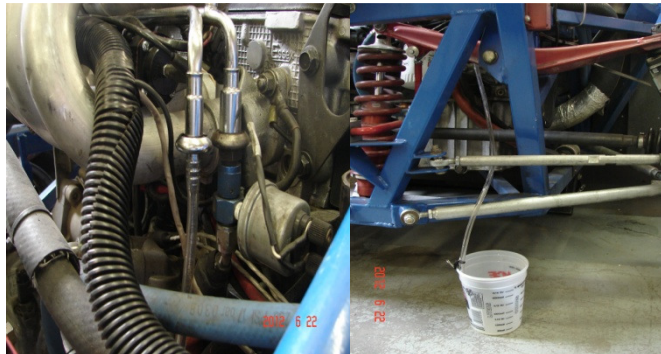

Figure 2 / 2a - Return Side of Fuel Rail
2. Figure 2 / 2a Remove -6 fitting just below the Ford spring lock fitting and attach female -6 fitting or Spring lock barbed hose fitting on the return side of the fuel rail (Shown in figure 2) with a separate length of hose. The length of this hose should be long enough to clear the side of the car where your measuring container can be located on the ground. Approximately 3 to 4 feet. Clear hose works best because it makes it easy to see the condition of the fuel as it would enter the injectors. Place the end of the hose in the measuring container.